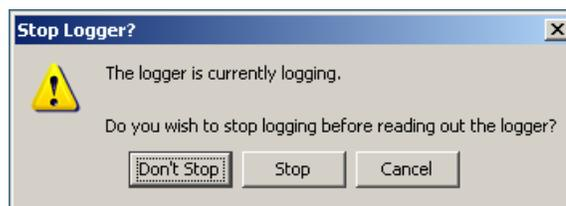

Figure 4 Stop Logger Screen
2. Retrieve the data recorded by the logger by clicking the *Readout* icon  on the tool bar or by choosing *Readout* from the *Logger* menu. During readout the logger will continue to record unless its memory is full or the logger is stopped (*Figure 4*).